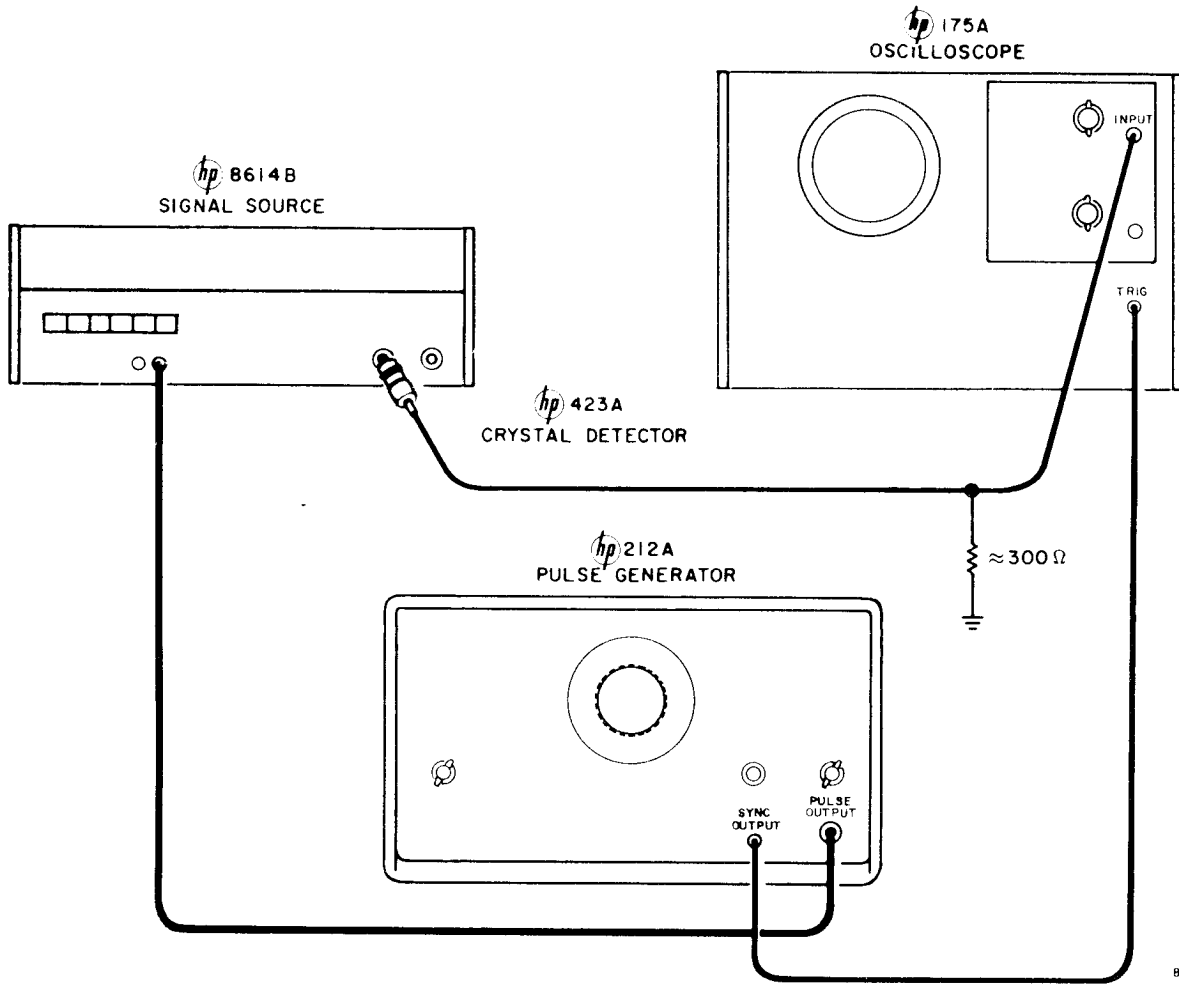
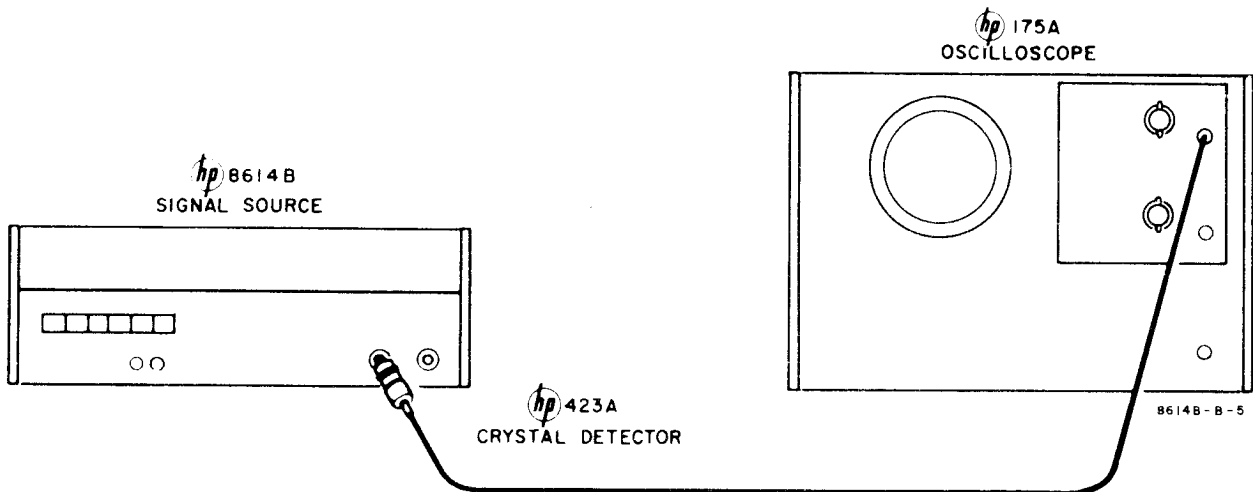

Figure 5-11. Pulse Modulation Adjust
Figure 5-12. Square-Wave Modulation Adjust
- a. Connect instruments as shown in Figure 5-11.
- a. Connect instruments as shown in Figure 5-12.
- ATTENUATION (DB) 0 DB
e. To check external synchronization, connect equipment as shown in Figure 5-11.